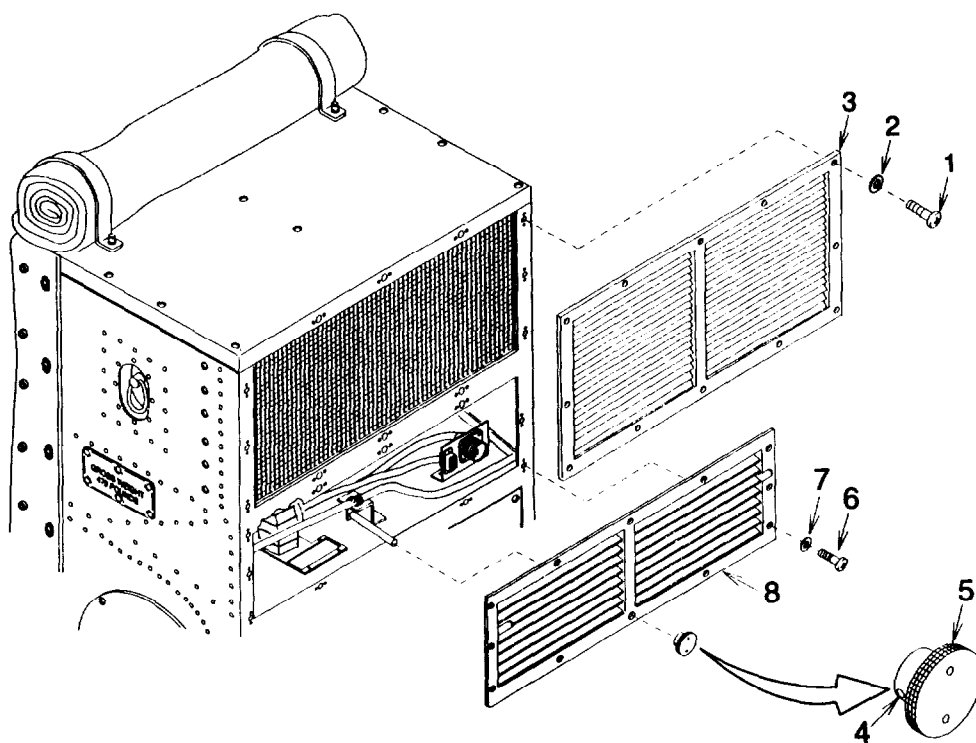
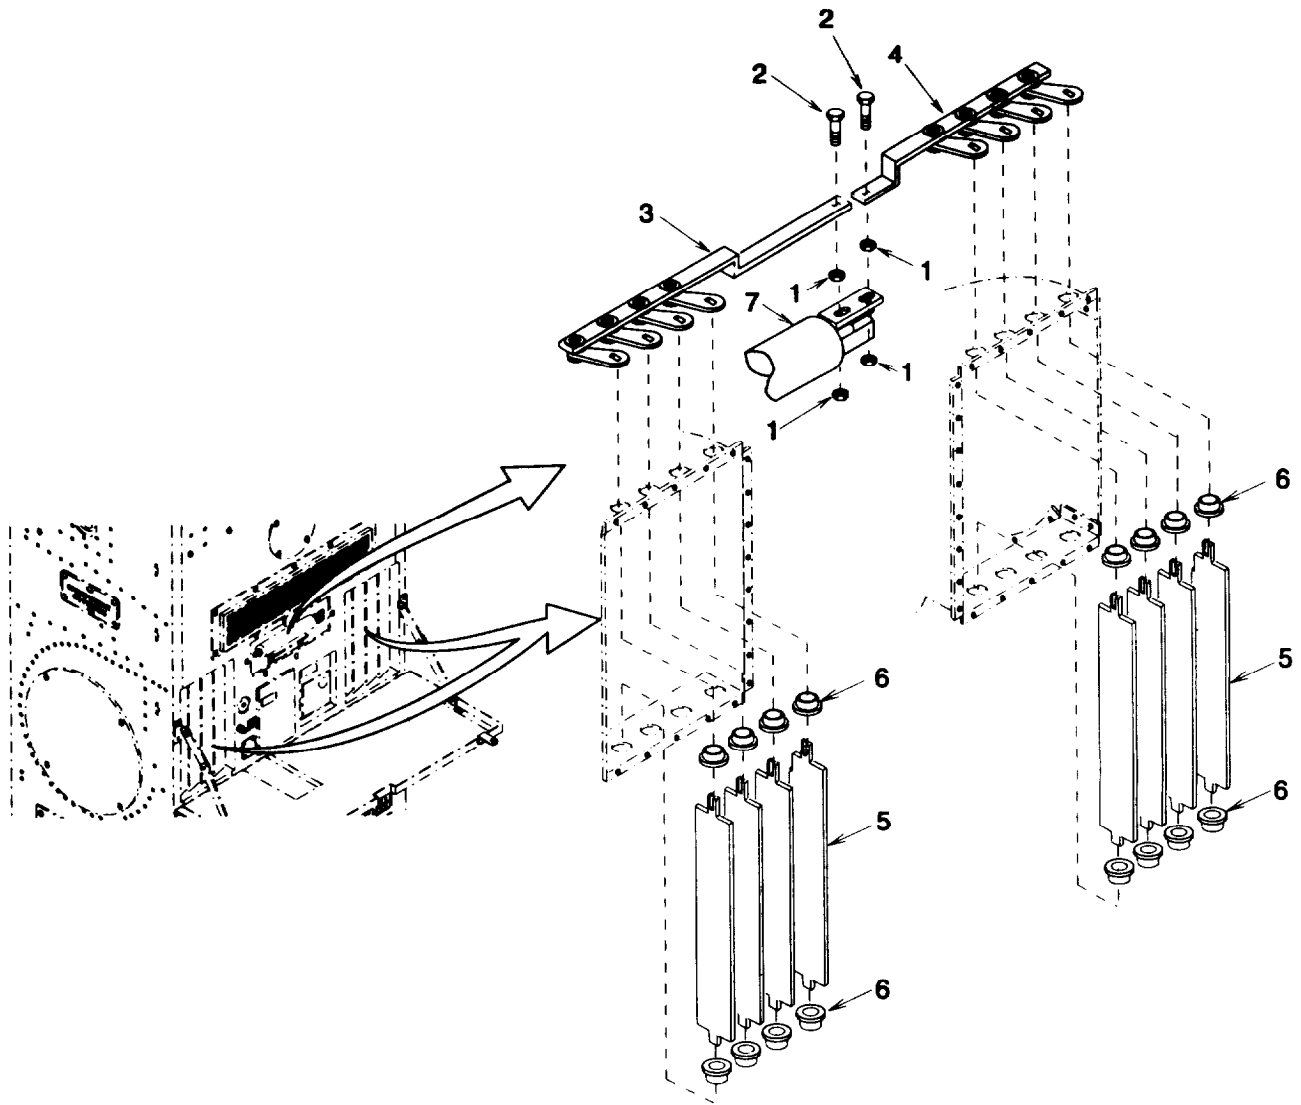

Figure 3-8. *Evaporator Air Return and Discharge Grilles*
Figure 3-9. *Condenser Air Damper*
(1) Evaporator Air Discharge Grille. Remove 12 screws (1) Figure 3-8, flat washers (2), and grille (3).
- (b) Remove four self locking nuts (1) Figure 3-9, and two screws (2). Discard self locking nuts.
- (c) Lift damper crank bells (3) and (4) to release shaft end of damper vanes (5).
- (d) Carefully flex damper vane (5) enough to free it from the bottom bearing (6) and remove damper vane. Repeat for each damper vane.
- (e) Remove 16 bearings (6).
- (1) Evaporator Air Discharge Grille. Install grille (3) Figure 3-8, 12 screws (1), and flat washers (2).
- (2) Evaporator Air Return Grille.
- (a) Install grille (8), 12 screws (6), and flat washers (7).
- (b) Install knob (5) and tighten setscrew (4).
- (3) Condenser Air Damper Vanes.
- (a) Install 16 bearings (6) Figure 3-9.
- (b) Insert the longer shaft end of damper vane (5) through the top bearing (6). Carefully flex damper vane enough to insert the short shaft end into the bottom bearing. Repeat for each damper vane.
- (c) Install the damper crank bells (3) and (4). Press onto the damper vane (5) shafts.
- (d) Move damper crank bells (3) and (4) to check for smooth movement of the damper vanes (5).
- (e) Install two screws (2) and four new self locking nuts (1). Do not tighten self locking nuts.